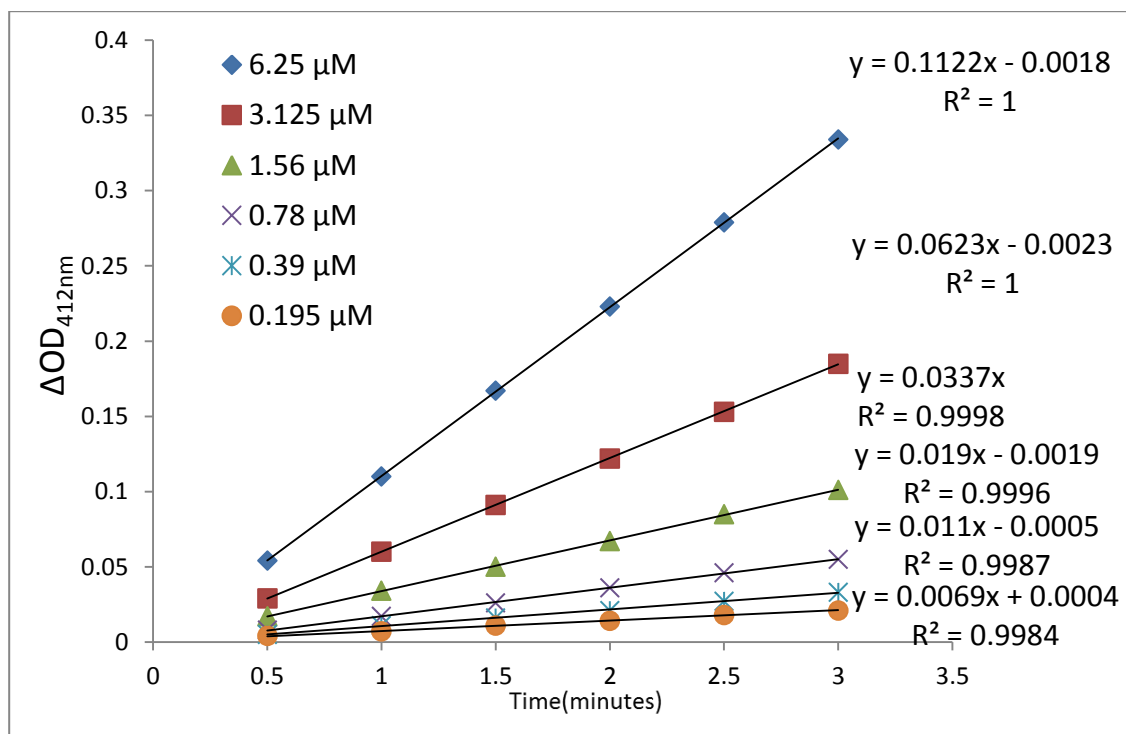

Figure 1. Standard curves of  $\Delta OD_{412nm}$  vs. reaction time for GSSG solution with different activity.
Data from the GSH/GSSG Ratio Assay kit measuring GSSG solutions with concentrations ranging from 0.195 to 6.25 µM show a linear relationship between OD412nm and GSSG concentration (Figure 1). Linear detection range is 0.05 µM to 6.25 µM in 96-well plate assay.
2. Based on the  $\Delta\text{OD}_{412\text{nm}}$  of the GSSG standard solutions, plot the absorbance at  $\Delta\text{OD}_{412\text{nm}}$  as a function of reaction time (Figure 1) to calculate  $\Delta\text{OD}_{412\text{nm}}/\text{min}$ . Subtract the measured  $\Delta\text{OD}_{412\text{nm}}/\text{min}$  at a different reaction time from the blank.
Figure 2. Standard curve of  $\Delta OD_{412nm}/min$  vs. concentration of GSSG. The  $\Delta OD_{412nm}/min$  is calculated as the slope of the standard curves shown in Figure 1.